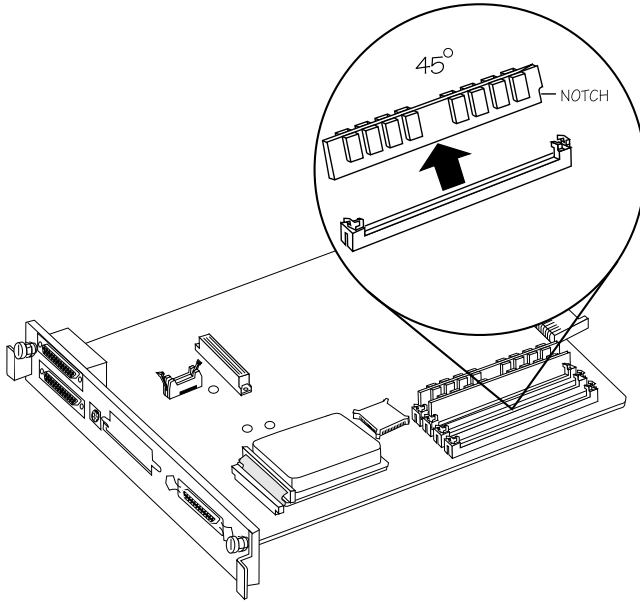

Fig. 8.14 *Tilt the SIMM Back and Remove It*
5. Tilt the SIMM back to a 45° angle and slide it up and out of the connector (fig. 8.14).